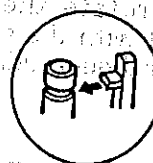

Figure 1-64
1. Use care not to deform the parts hooked to the slow brake shaft cap, take-up loading gear, and supply loading gear as shown in Figure 1-64.